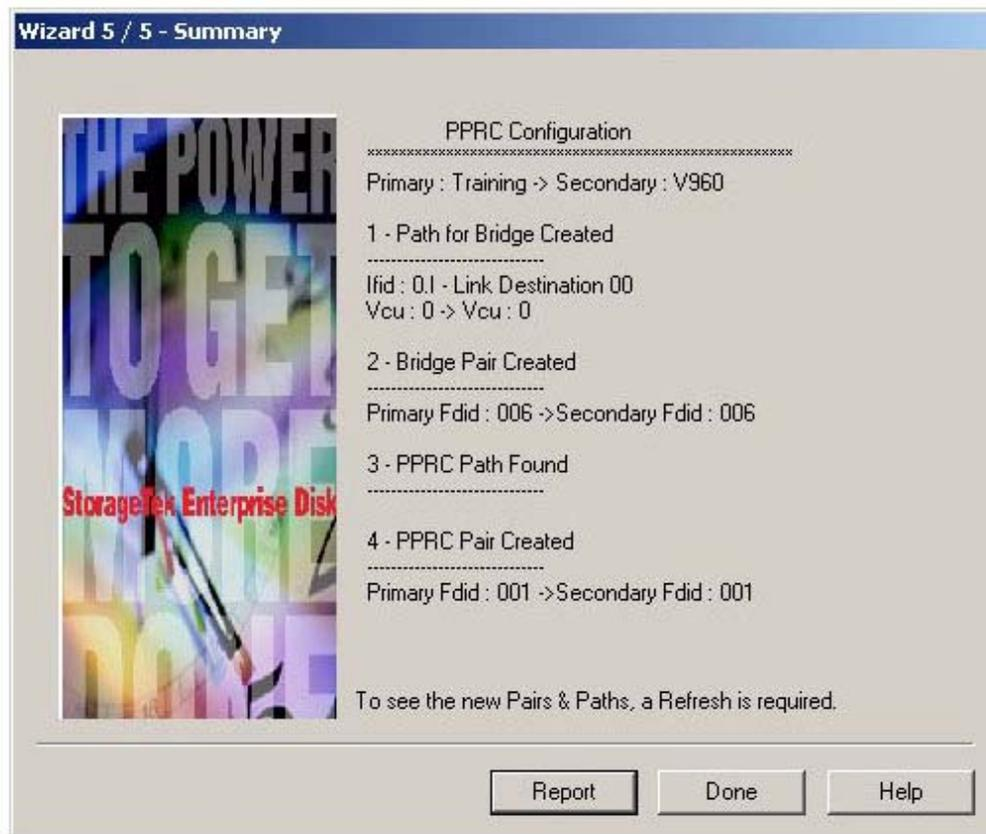

Figure 19 Configuration Information
12. The information screen of Figure 19 appears. **Check the information on this screen carefully.**